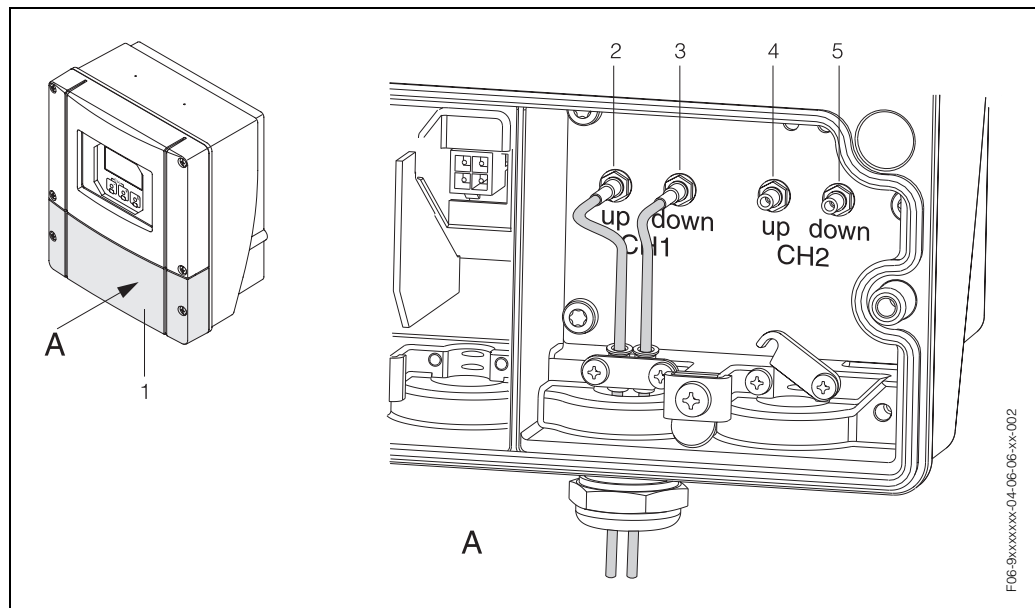

Fig. 47: Connecting the measuring system
1. Transmitter: Loosen the screws and remove cover (item 1, Fig. 47) from the connection compartment.
3. Disassemble the special cable entry which is supplied with the sensors. Run both sensor connection cables through the cover (6) of the cable gland and into the connection compartment.
4. Position the cable fixing sleeves (9) of both sensor cables exactly next to each other (Detail B). Push in the earth contact terminals (10) and screw tight. This ensures perfect grounding.
5. Spread the rubber seal (7) along the side slit with a suitable tool (e.g. a large screwdriver) so that both sensor cables can be fixed into place. Push up the rubber seal in the cable gland (8). Close the cover of the cable gland (6) so that it is tight.
6. Plug in the sensor cable connectors in the way shown in Fig. 47.
7. Transmitter: Secure cover (1) on the connection compartment.